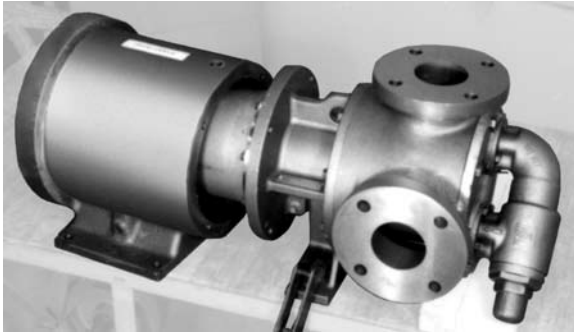

FIGURE 11
4. To facilitate disassembly, it may be necessary to slide a block of wood under the pump casing or clamp pump foot as shown, since the pump alone will not balance on foot. See **Figure 11**. Remove the (4) 0.50" capscrews securing the pump to the coupling bracket. After parting the bracket slightly, it will have a tendency to be drawn to one side due to the inner magnet. Pull the coupling bracket completely away.